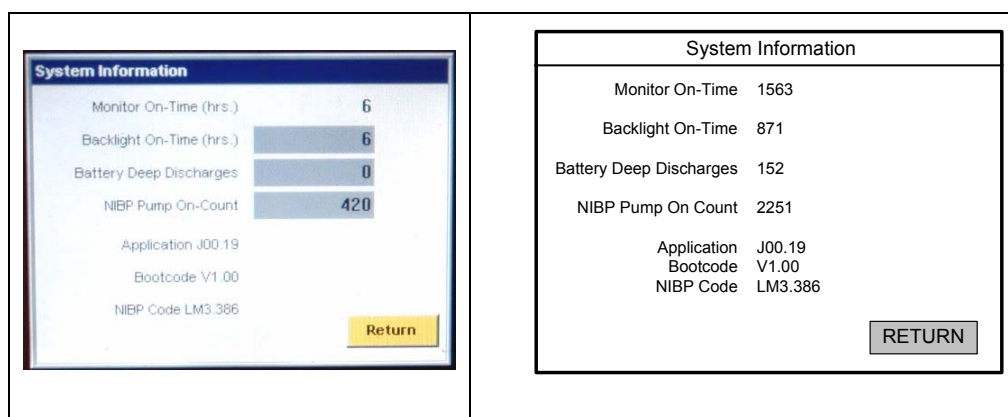

Figure 4-4 The System Information Service Menu
4.11.3 Accessing the System Information (Figure 4-4)